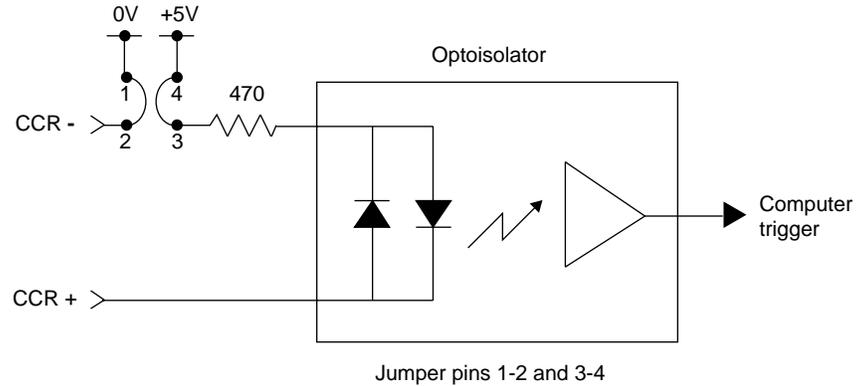

Figure A-6 Jumpering for GPI Switch Closure (Factory Setting)
1. Figure A-6 shows switch closure jumpering, which creates a digital pulse.